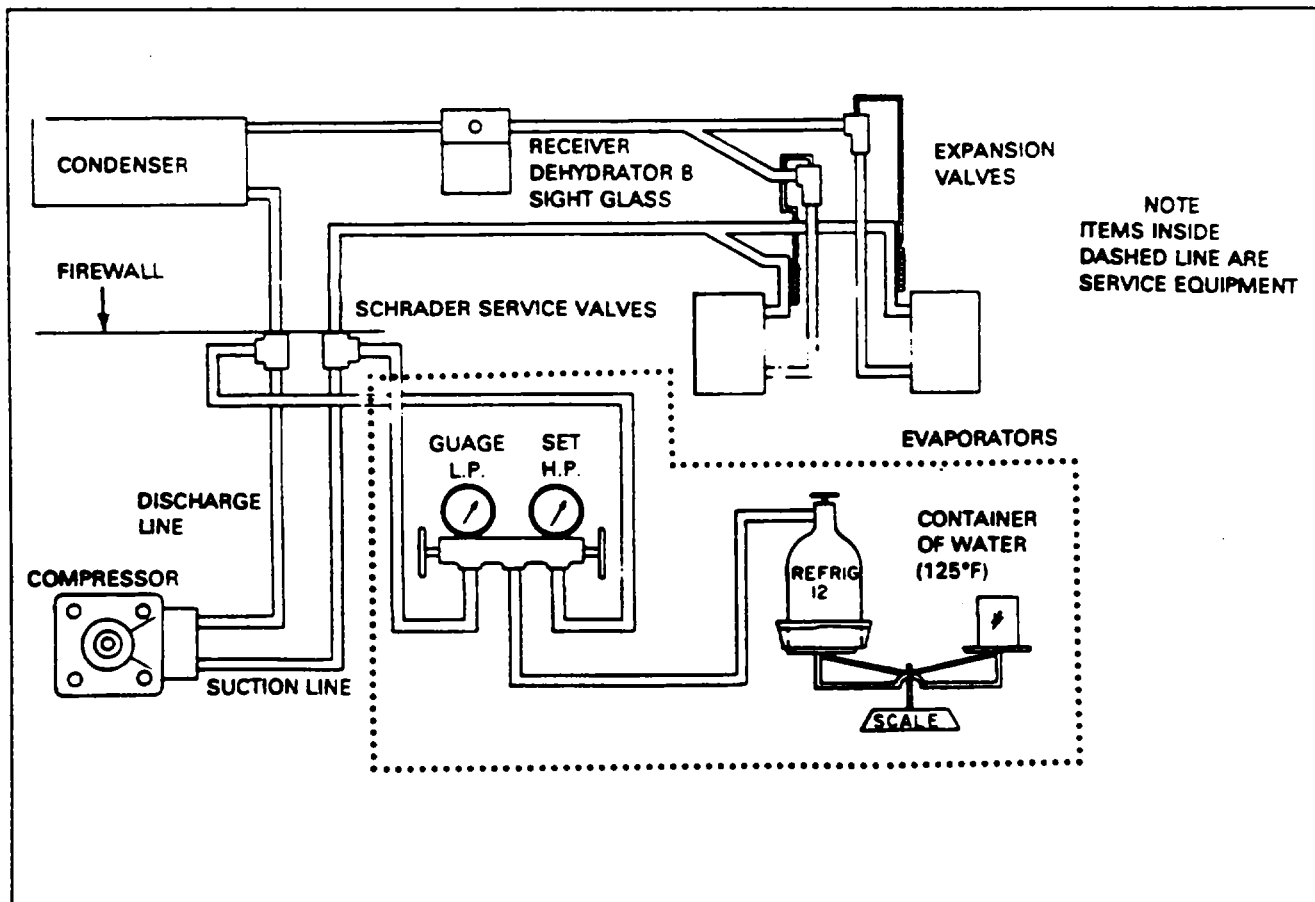

Figure 21-29. Charging Hookup
COMPRESSOR REMOVAL. (Refer to Figures 21-29 and 21-30.)
8. Connect the blue, low pressure, charging line to the low pressure gauge port. (Refer to Figure 21-29.